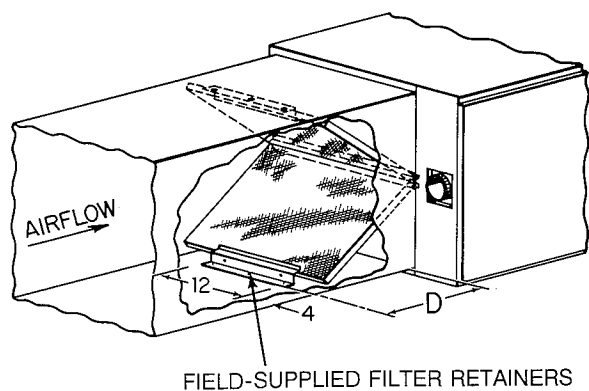
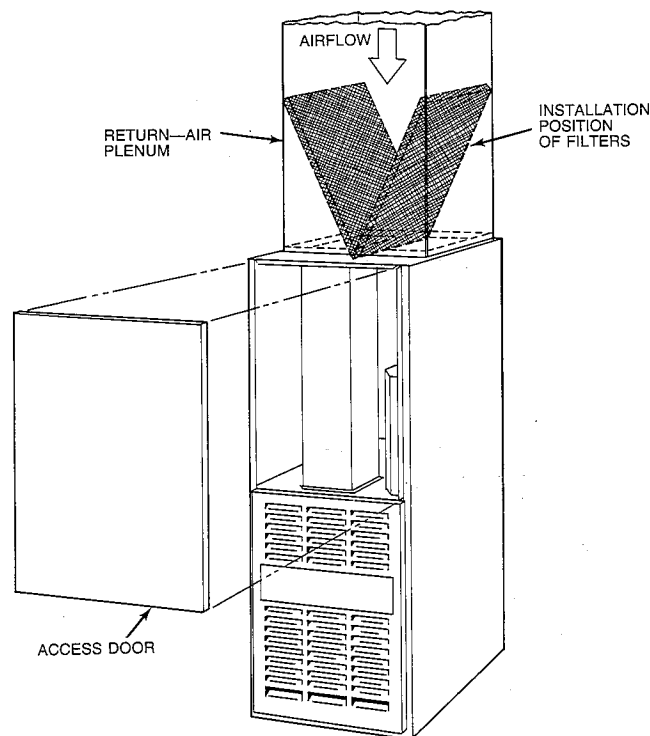

Figure 8—Horizontal Filter Arrangement
Figure 9—Position of Filters
- a. Install field-supplied filter retainers as indicated in Figure 8 and Table IV before connecting return-air duct to furnace.
The two factory-supplied filters are shipped in the blower compartment. After the return-air duct has been connected to the furnace, install the filters in a V-formation inside the return-air plenum. See Figure 8 and Table IV for horizontal applications. Horizontal filter retainers must be field-supplied. See Figure 9 for downflow applications.